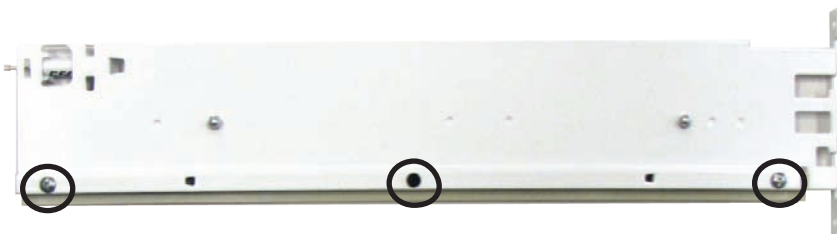

Fig. G-2
5. Remove the (3) screws holding the Rack Gear to the bottom slide rail (**Fig. G-2**).